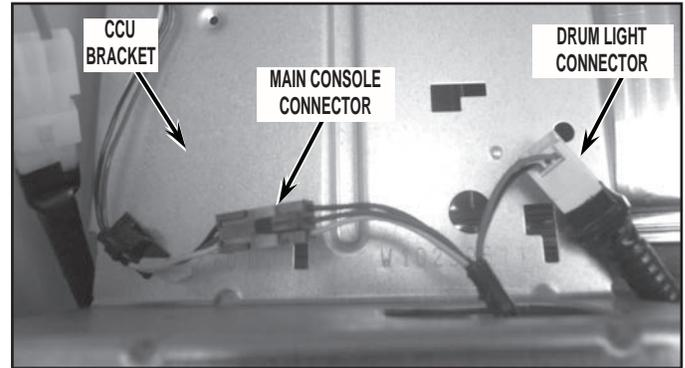

FIGURE 4
7. Disconnect drum light connector and main console connector as shown in *Figure 4*. Lift up on console and tilt assembly forward to remove console.